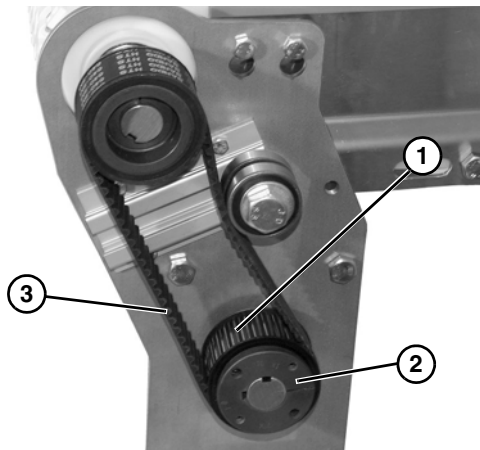

Figure 29
- Remove pulley (**Figure 29, item 1**), taper hub assembly (**Figure 29, item 2**), and timing belt (**Figure 29, item 3**).